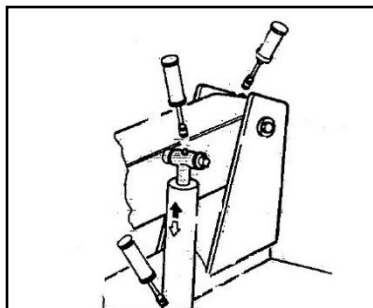

Figure 29
- 3) Grease periodically the spindle bracket cylinder. Add grease through the greasing nipples (See Figure 29) using ordinary lubricating grease.